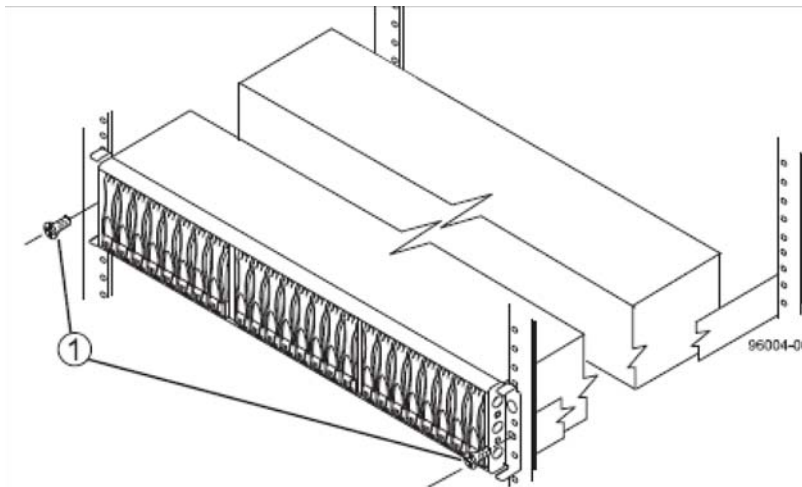

Figure 2-11 Securing the IS2224 Storage Enclosure to the Rack's Front
8. Secure the front of the storage enclosure to the cabinet. Use the two screws item (1) in Figure 2-11 to attach the flange on each side of the front of the storage enclosure to the mounting rails.